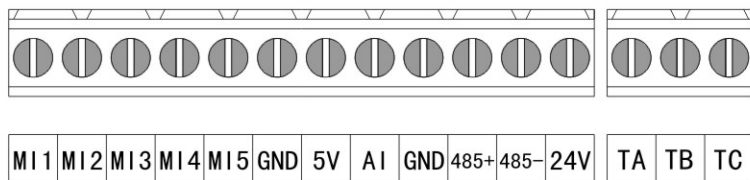

Fig.3-3 Control Circuit Terminal
1.Control circuit terminal are shown in the Fig.3-3.